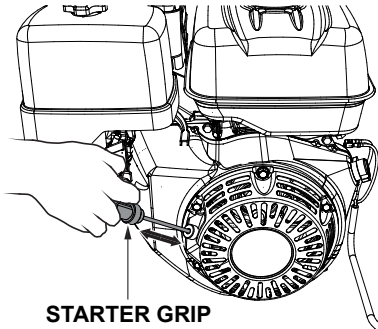

Figure 23. Starter Grip
7. Grasp the starter grip (Figure 23) and slowly pull it out. The resistance becomes the hardest at a certain position, corresponding to the compression point. Pull the starter grip briskly and smoothly for starting.